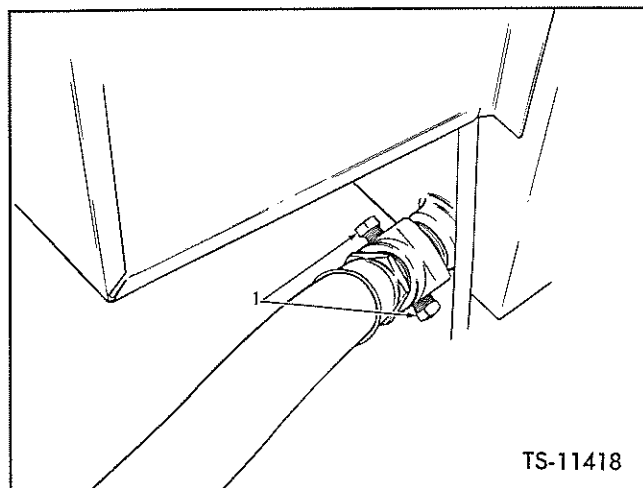

Fig. 24. Check Pressure — Oil Cooler IN
1. Install tachometer on engine. Install gauges at cooler IN and cooler OUT pressure ports shown as Item 1 in Figures 24 and 25.